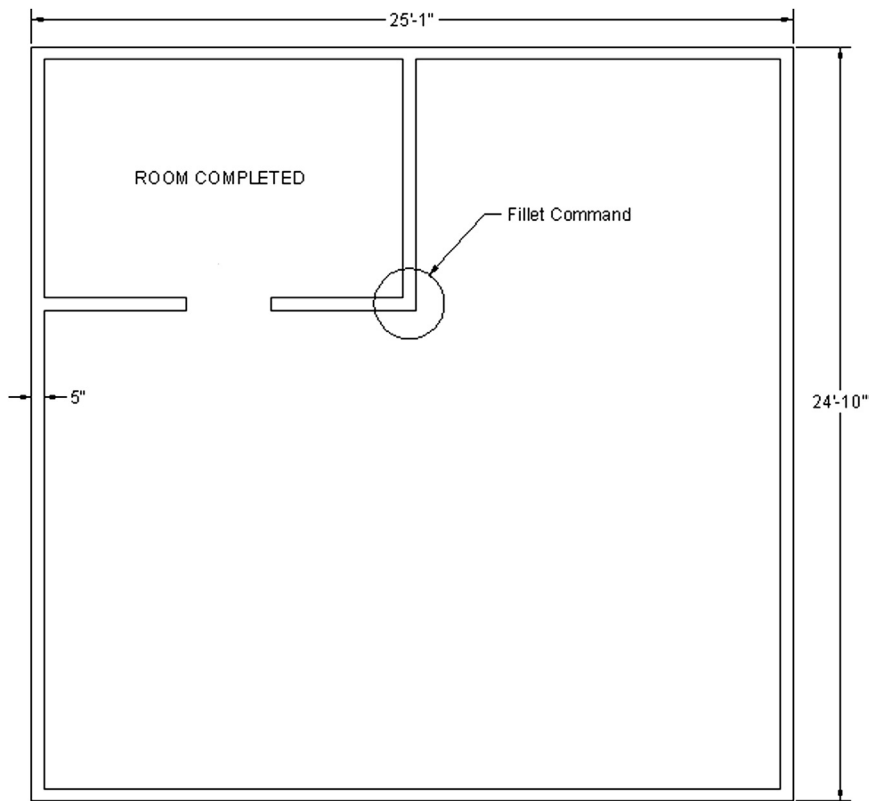

FIGURE 3.16
11. Trim out the extra line where each inner wall meets the main wall. Figure 3.16 shows you what you should see so far (be sure to ask your instructor if something is not working out).